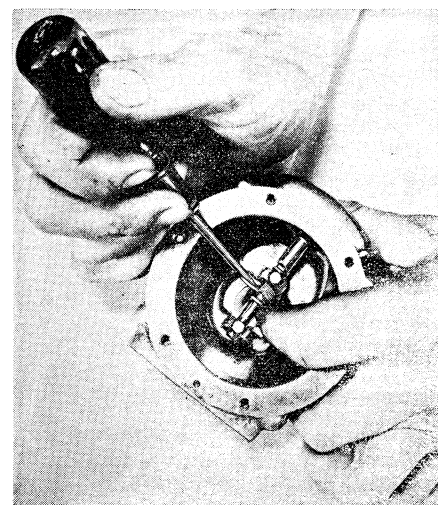

Fig. 16 Removing atmospheric valve spring and washer
20. Take off lower part of valve body and remove atmospheric valve spring and washer, Fig. 16.